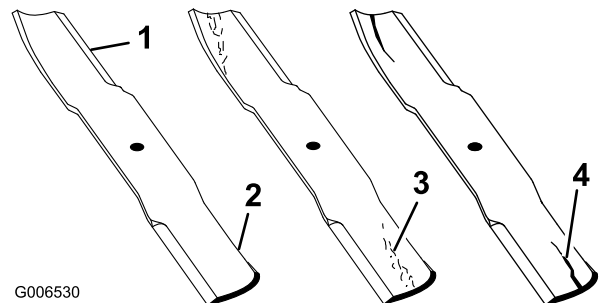

Figure 89
1. Inspect the cutting edges (Figure 89). If the edges are not sharp or have nicks, remove and sharpen the blades. Refer to Sharpening the Blades.
2. Inspect the blades, especially the curved area (Figure 89). If you notice any damage, wear, or a slot forming in this area (Figure 89), immediately install a new blade.